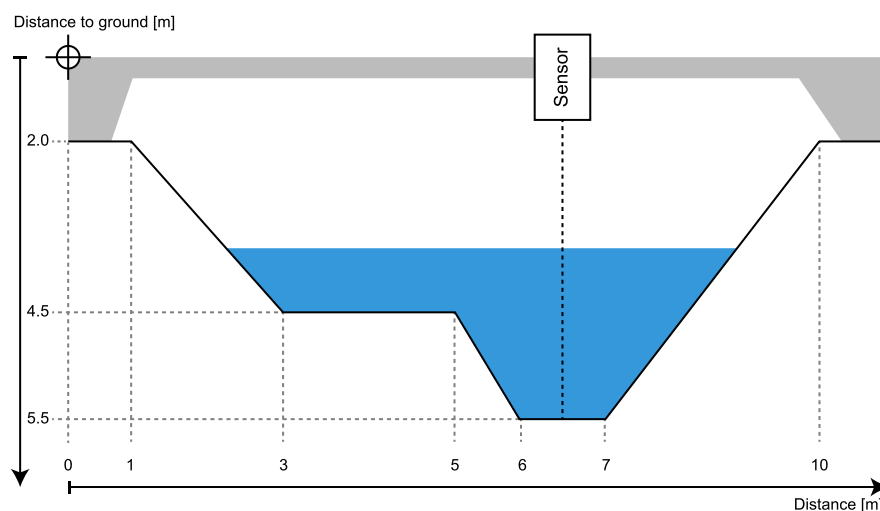

Figure 15 Cross-Sectional profile with heights relative to top
- height relative to top with positive values downwards, see Figure 15